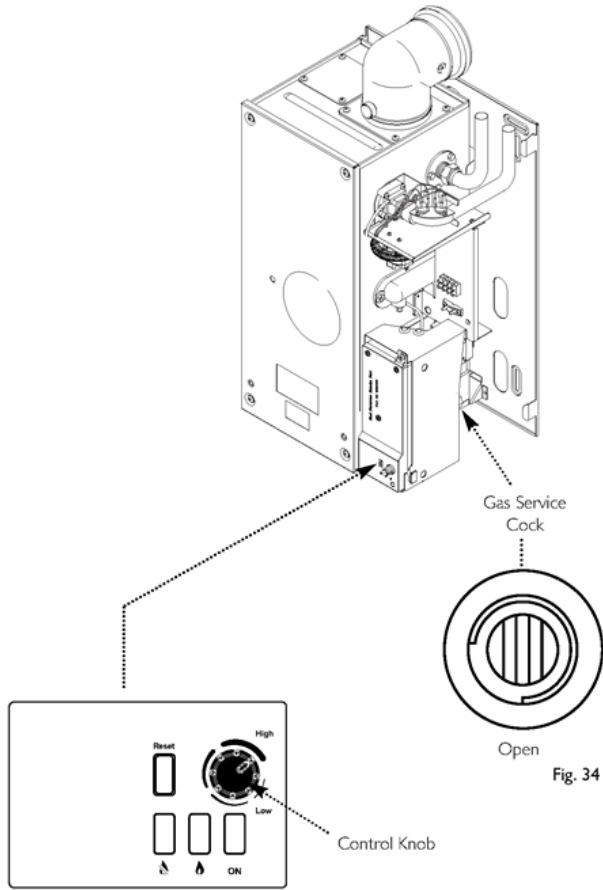

Fig. 34 & Fig. 35
7. Remove the top RH securing screw and hinge down the PCB housing to gain access to the gas service cock (see Fig. 32). Turn the gas service cock anticlockwise to the ON position and check for gas tightness up to the gas valve (Fig. 34).